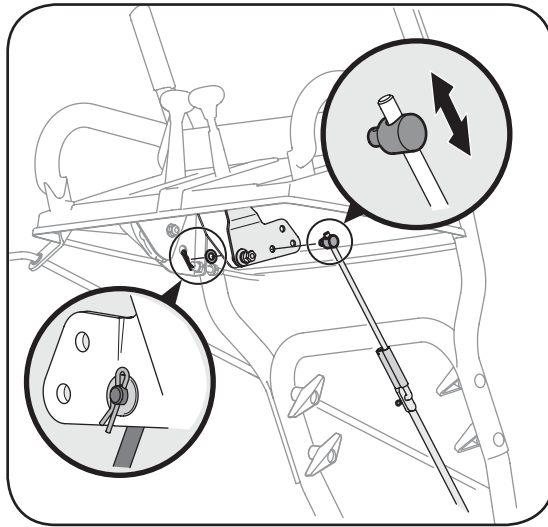

Figure 5-1
If the full range of speeds (forward and reverse) cannot be achieved, refer to Figure 5-1 and adjust the shift rod as follows:
1. Looking underneath the handle panel, note which of the three holes in the shift lever the ferrule is inserted into. Also note the direction of insertion. Then remove the internal cotter pin and flat washer from the ferrule and withdraw the ferrule from the shift lever. See Figure 5-1.
2. Place shift lever in sixth (6) position or fastest forward speed.
4. As necessary, rotate the ferrule up or down the shift rod until the ferrule lines up with the hole from which it was earlier removed. See Figure 5-1.